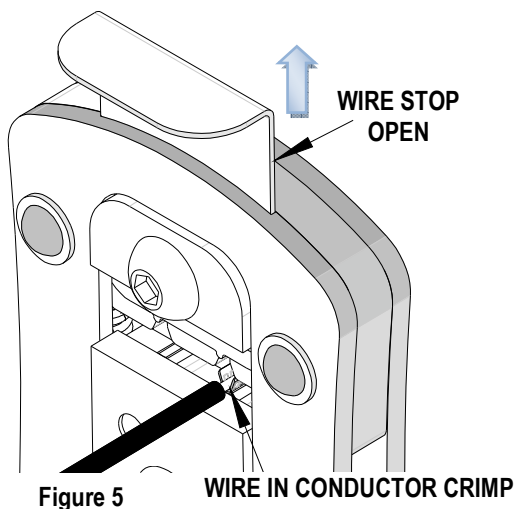

Figure 5
4. Position a wire from the back side of the hand tool and into the conductor crimp area only. See Figure 5.